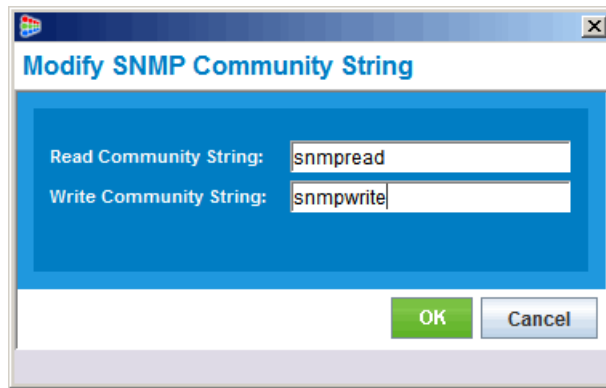

Figure 83. Modifying an SNMP Community String
2. Change either or both the **Read** and **Write** strings to the desired values (as shown above in Figure 83).